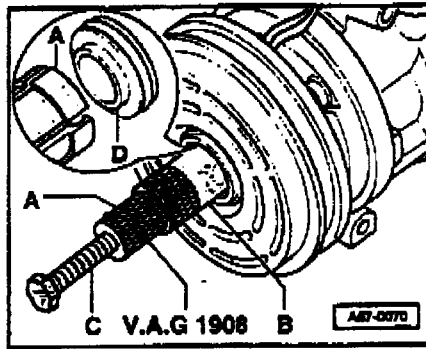

Fig.1 Flange Seal (with collector ring-counter support),
- ◆ Removing and installing, ⇒ Fig. 1